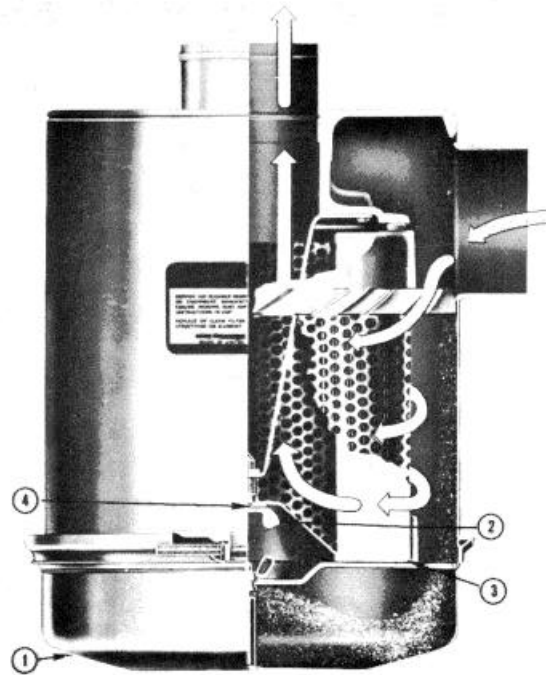
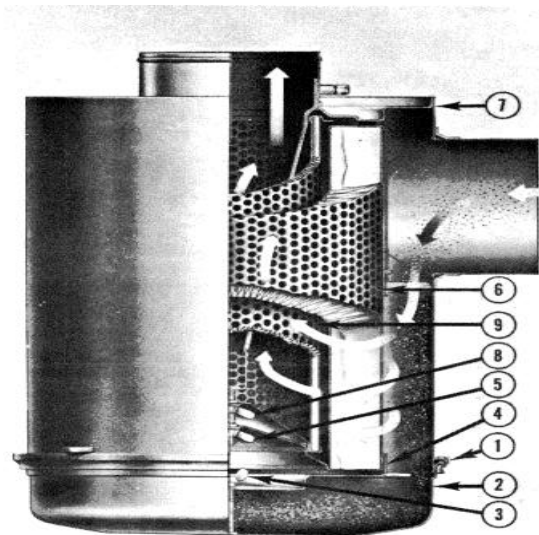

Fig. 2-11, (OM1029L). Air cleaner-heavy duty
Fig. 2-12, (OM1030L). Air cleaner-heavy duty dual element
1. Loosen the wing bolt, remove the band securing the dust pan (1, Fig. 2-11), (2, Fig. 2-12).
2. Loosen the wing nut (2, Fig. 2-11 and 3, Fig. 2-12), remove the dust shield (3, Fig. 2-11), (4, Fig. 2-12), from the dust pan (1, Fig. 2-11), (2, Fig. 2-12), clean the dust pan and shield.
3. Remove the wing nut (2, Fig. 2-11), (5, Fig. 2-12) securing the air cleaner primary element (6, Fig. 2-12) in the air cleaner housing, inspect the rubber sealing washer on the wing nut (4, Fig. 2-11), (5, Fig. 2-12).
- a. Check the air restriction indicator. If the air restriction is excessive, disassemble the air cleaner, remove the wing nut (8, Fig. 2-12), and replace the safety element (9).